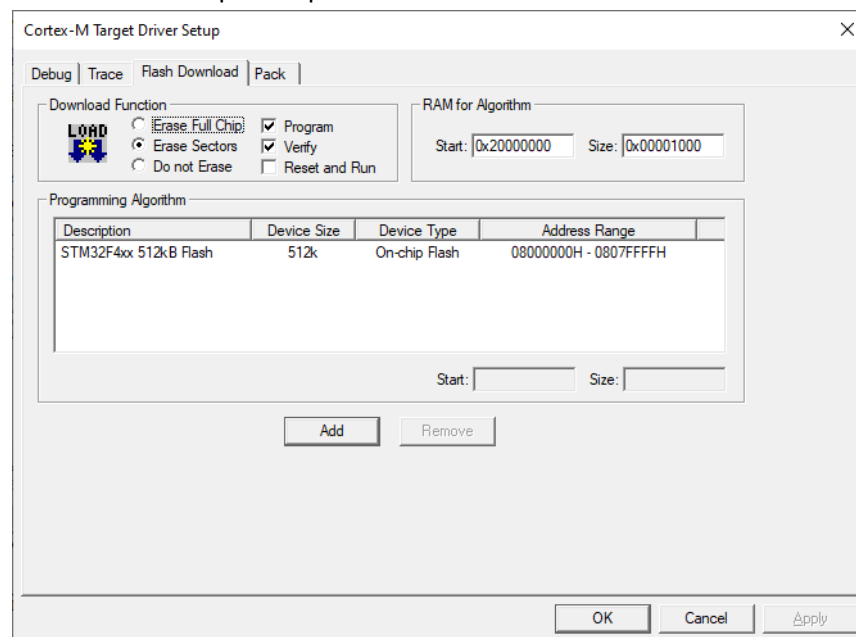

Figure 8. STM32F4xx flash programming algorithm selected
- Click on the **Flash Download** tab of the Cortex-M Target Driver Setup Window (Figure 8) and under **Programming Algorithm**, click the **ADD** button and select **STM32F4xx 512kB Flash**. Then you can close the setup and options windows.